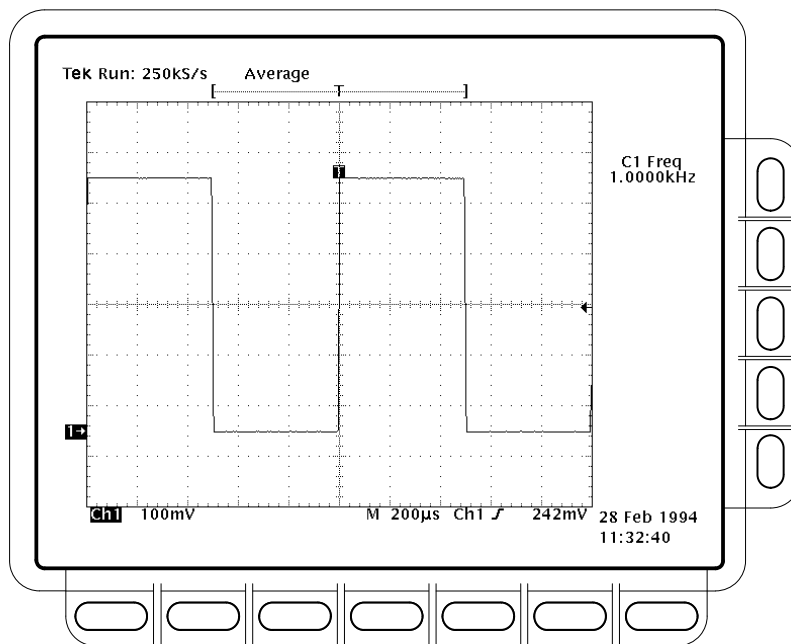

Figure 4–22: Measurement of Probe Compensator Frequency
- CHECK that the **CH 1 Freq** readout is within 950 Hz to 1.050 kHz, inclusive. See Figure 4–22.